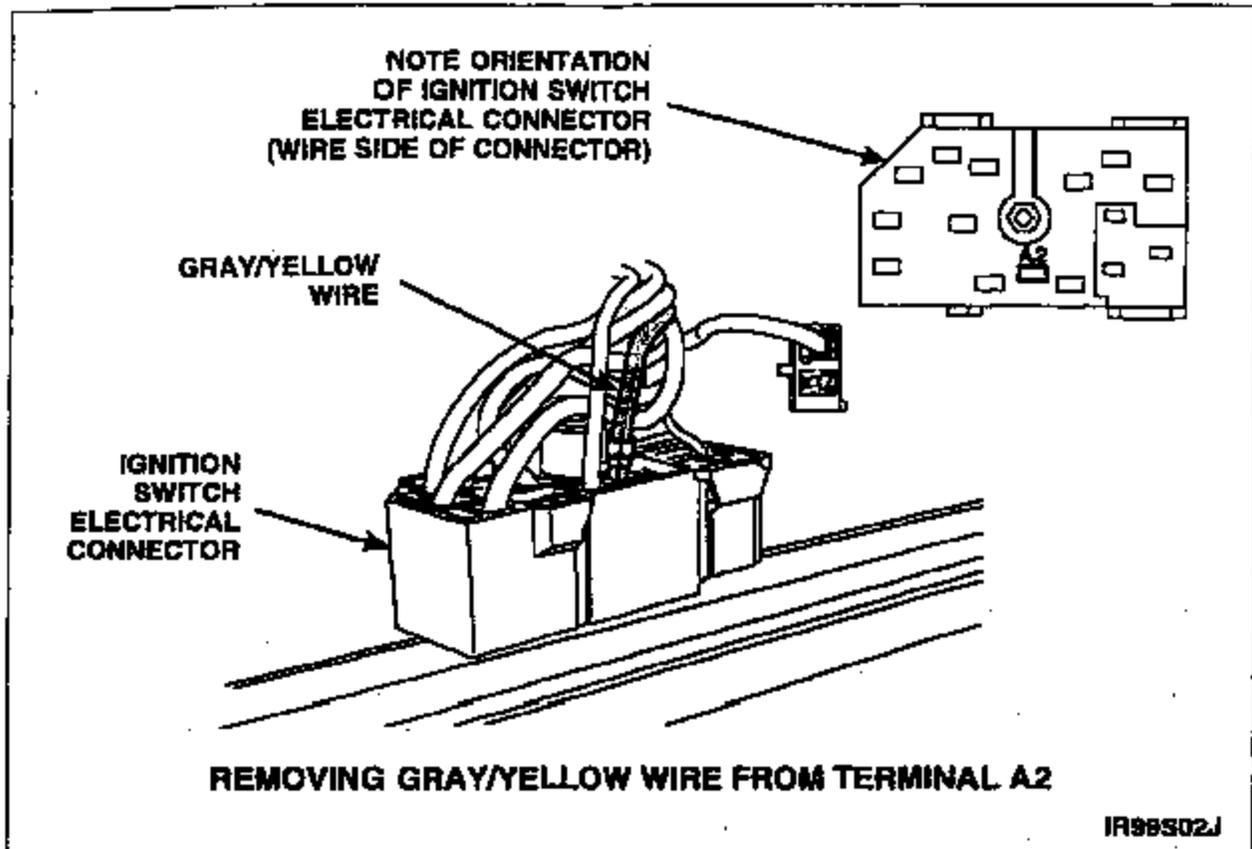

FIGURE 10
12. Remove the gray/yellow wire, circuit 687, from terminal A2 of the ignition switch electrical connector. See Figure 10.